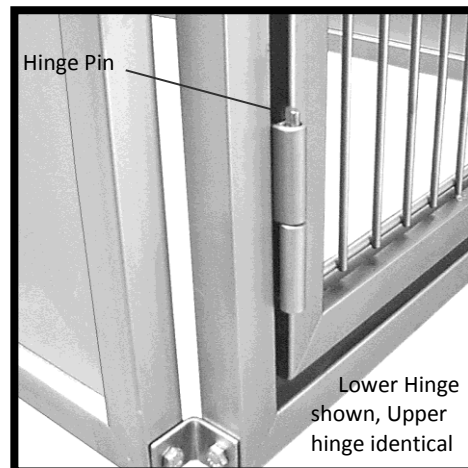

Figure 52: Swinging Gate Hinge Pin
1. Use a punch and a small hammer to drive the existing pin upward, and out of the hinge (Figure 52).
3. With a punch and a small hammer, drive both hinge pins upward, and out of the hinges (Figures 52 and 54).